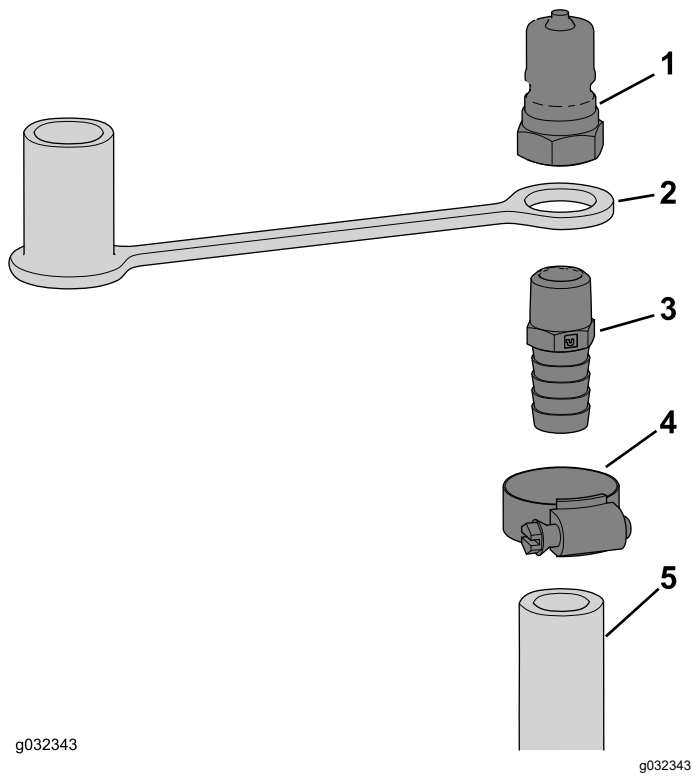

Figure 8
- Slide the dust plug over the threaded end of the straight fitting (Figure 8).
- Thread the straight fitting (3/8 NPT x 0.625 barb) to the male coupler (Figure 8).